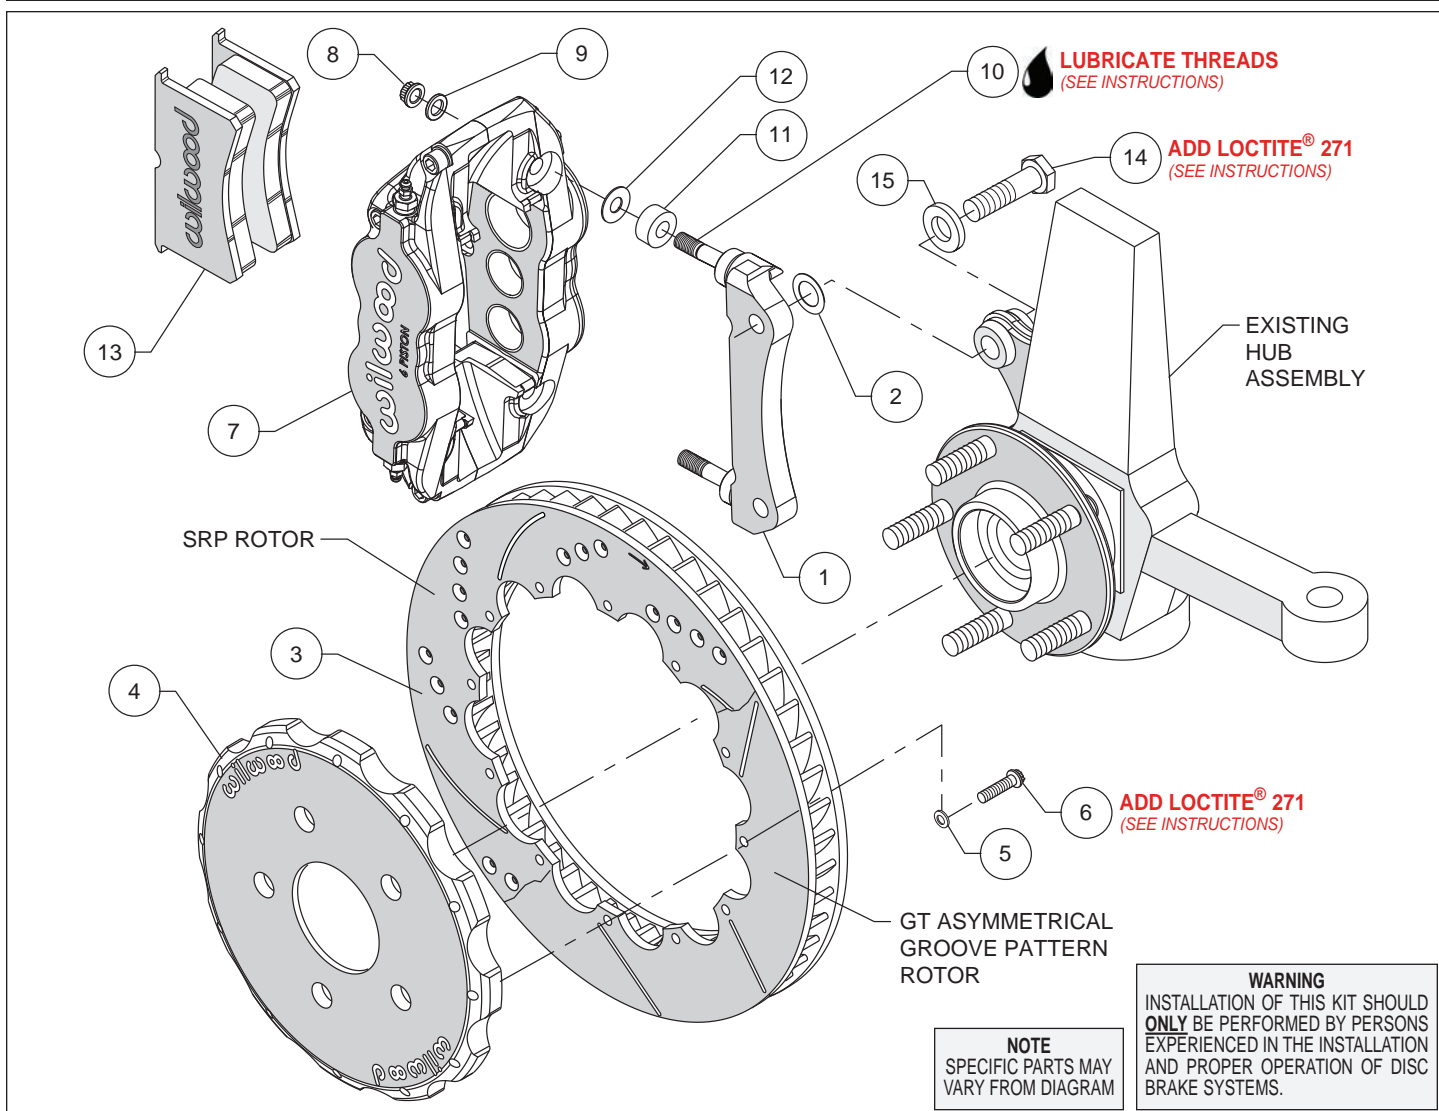
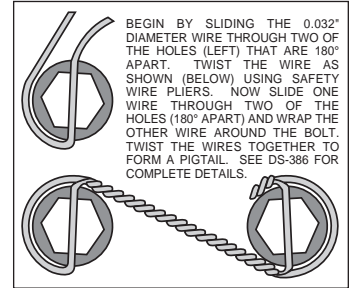

Figure 1. Typical Installation Configuration
Figure 3. Safety Wire Diagram
**Assembly Instructions** (numbers in parenthesis refer to the parts list and Figure 1 on the preceding pages):
- The caliper mount bracket (1) should initially be installed with clean, dry threads on the mounting bolts. Orient the bracket, as shown in Figure 1 and install using bolts (14) and washers (15). Initially place one .029" thick shim (2) on each bolt between the bracket and upright, Figure 1. Temporarily tighten the mounting bolts. **NOTE:** *The bracket must fit squarely against the mount bosses on the upright.* Inspect for interference from casting irregularities, machining ridges, burrs, etc. Later, after the caliper alignment has been checked, the mount bolts will be secured using red *Loctite*® 271.
- Orient the rotor (3) and the hat (4) as shown in Figure 1 and Photo 1. Attach rotor to hat using bolts (6) and washers (5). Using an alternating sequence, apply red *Loctite*® 271 to the threads, and torque to 155 **in-lbs**. For an added measure of security, the bolts may be safety wired using standard 0.032 inch diameter stainless steel safety wire as shown in Figure 3. Refer to Wilwood's data sheet DS-386 (available at [www.wilwood.com/Pdf/DataSheets/ds386.pdf](http://www.wilwood.com/Pdf/DataSheets/ds386.pdf)) for complete safety wire installation instructions.
- NOTE:** *This kit contains distinct right and left hand calipers that must be mounted in a specific direction, as described below.* Lubricate the caliper mounting studs (10) with lightweight oil. Initially place one .035" thick shim (12), and spacer (11) on each stud as shown in Figure 1 and Photo 2. Mount the caliper (7) onto the bracket (1) using lock nuts (8) and washers (9), Figure 1. Ensure that the caliper is mounted so that the largest pistons are at the rotor exit end of the caliper, in relation to the direction of rotor rotation. Temporarily tighten the lock nuts and view the rotor through the top opening of the caliper. The rotor should be centered in the caliper, Photo 3. If not, adjust by adding or subtracting shims (2) between the bracket and the upright. Always use the same amount of shims on each of the two mounting bolts. Once the caliper alignment is correct, remove the bracket mounting bolts (14) one at a time, apply red *Loctite*® 271 to the threads, and torque to 77 ft-lb.